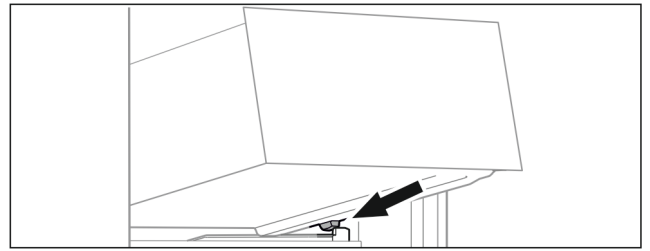

Fig. 90
- ▶ Place drawer at an angle behind the stoppers on the moulded rib. (see Fig. 90)